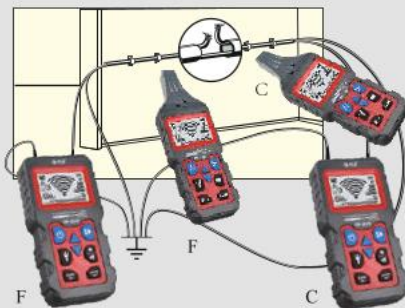

Fig 3-1-5
- ※ All lines not being used must be connected to the auxiliary ground as shown in Fig.3-1-5.
- ※ Connect both transmitters as shown in Fig. 3-1-5.
If the transmitters are connected in accordance with Fig. 3-1-5, the receiver indicates C on the left side of the line interruption. If the receiver goes beyond the interruption position towards the right, it will display F. If you are directly above the interruption, no line code is displayed, due to the overlapping of both transmitter signals.